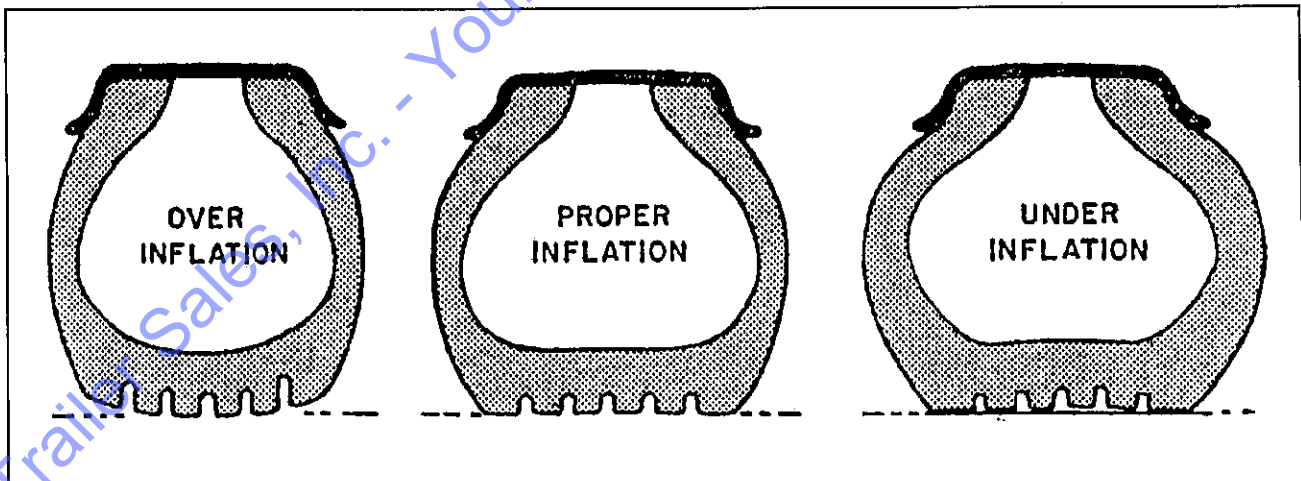

Fig. 4-16 Tire Inflation Examples
**4-12.1 Tire Inflation.** Tire inflation will cause tire to ground contact characteristics as shown in **Figure 4-16**. Tire inflation should be checked daily while the tire is cold, and during road stops. Checking the tire pressures while tires are hot will give a faulty increased pressure reading. Adjusting tire air pressure to the specified amount while tires are hot will produce improper tire to road contact and thus abnormal wear. Do not exceed cold inflation pressure listed on the semitrailer VIN plate located on the front of the semitrailer. Exceeding cold inflation pressure will result in damaged tire bodies, rims, and wheels. Replace all valve stem caps when pressure checking/adjusting has been completed. Remove any foreign objects from between duals.